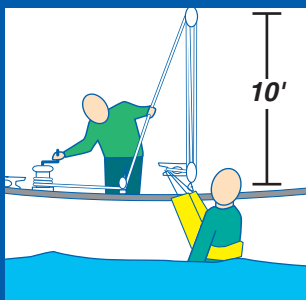

Fig. 17
5. Hoist the top block at least 10 feet above the deck. The stuffed line should pull right out of the sack (Fig. 17).